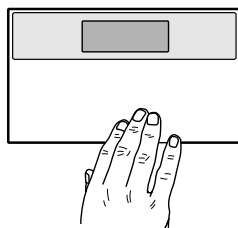

Fig. 1. Mounting thermostat on subbase.
1. Engage tabs at the top of thermostat and subbase. See Fig. 1.